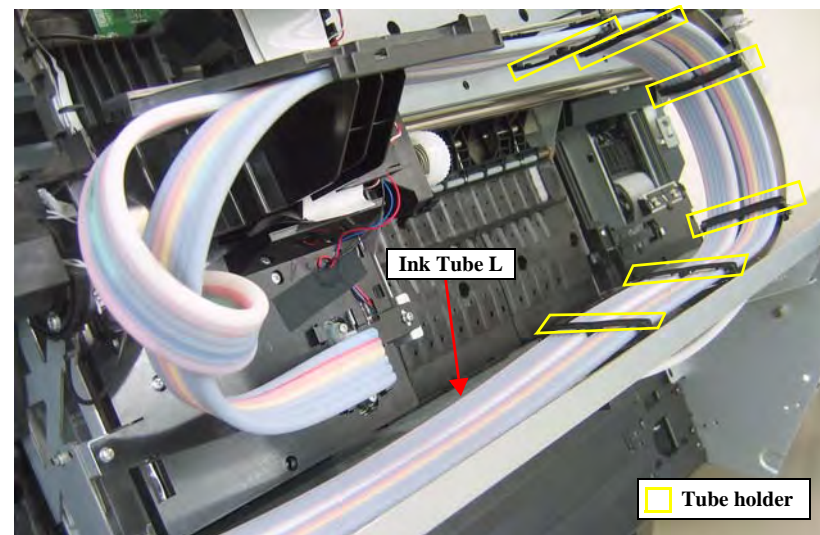

Figure 4-159. Releasing the Ink Tube L (1)
11. Disengage the nine tube holders, and release the Ink Tube L. *See Figure 4-159, 4-160.*